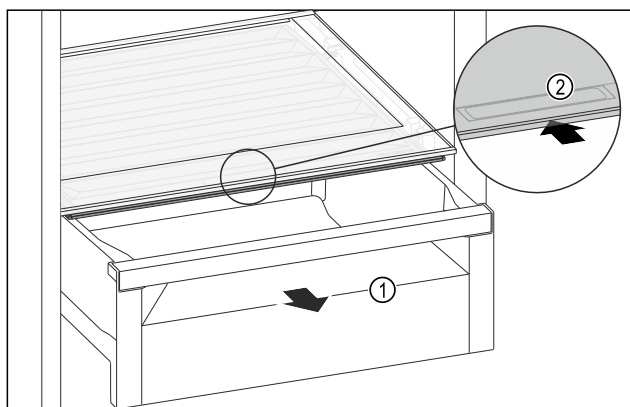

Fig. 102
- Pull out the drawer Fig. 102 (1).
- Grasp the recessed grip Fig. 102 (2) on the compartment lid and push the compartment lid backwards at the same time.